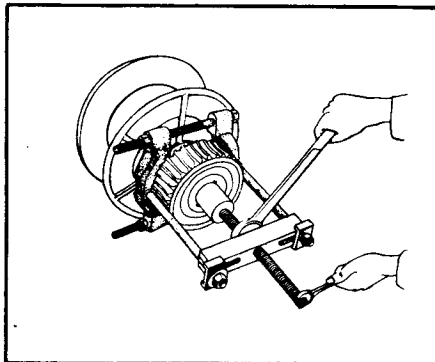
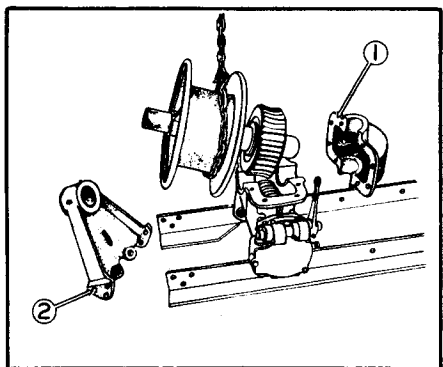
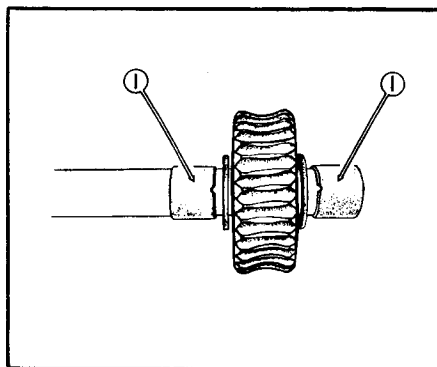

Figure 5 Pulling Worm Gear
Figure 4 Removing Hoist Drum
Figure 6 Assembly of Drum Shaft Bushings
without removing the hoist from the tractor. Remove the housing cover (1), Figure 4, unbolt the bearing leg (2) and lift out the drum. Pull the worm gear, Figure 5. Remove the worm gear keys and slip the thrust washer and bronze bushing off the shaft. If desired, the shaft may now be driven out of the drum.
When reassembling the drum shaft, the bushings (1), Figure 6, must be installed with the oil groove as shown in order to provide proper lubrication of the bushings. If new bushings are installed, they must be drilled for dowel pins. Before replacing cover (1), Figure 4, remove the two dowel pins. After the cover is in place, drill into the bushings